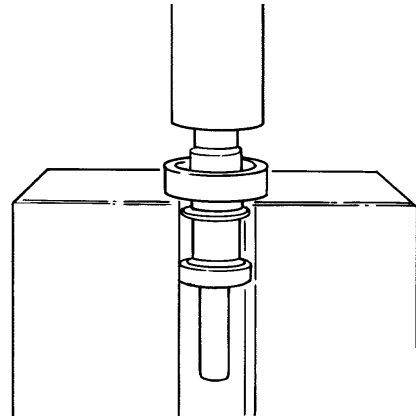

Figure 85 - Large and Small Bearings - Removal
- g. Press the large bearing (Fig 79(2)) and small bearing (Fig 79(3)) off the coolant pump shaft (Fig 85).